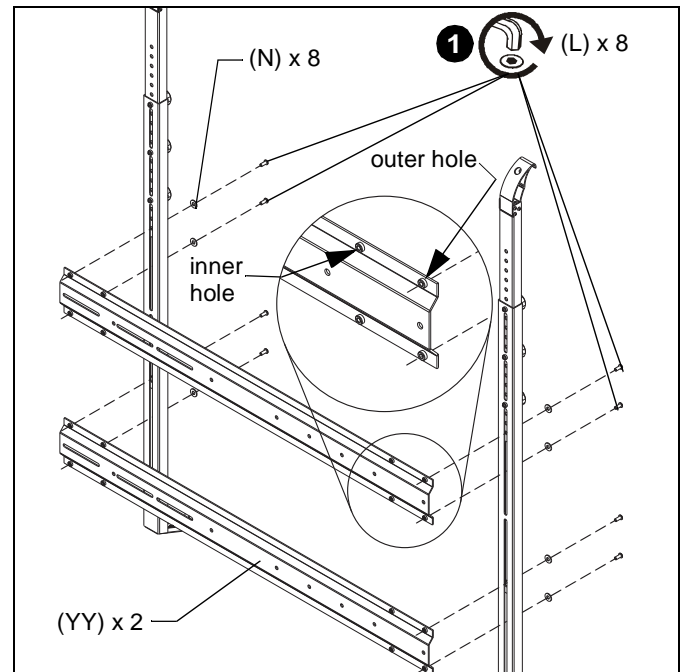

Figure 5
1. Loosely assemble the cross brackets (YY) to the upright legs using eight 1/4-20 x 5/8" button head cap screws (L) and 1/4" washers (N) through the uprights and into either the inner or outer set of mounting holes in the cross brackets. (See Figure 5)
NOTE: Additional lateral shift is available when using the **inner holes** on cross brackets. (See Figure 5)